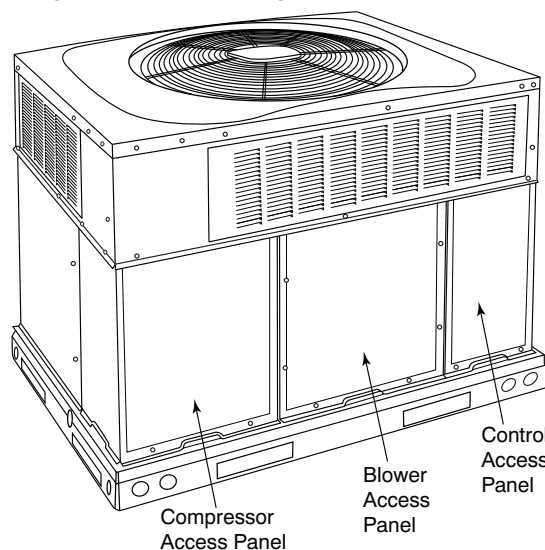

Fig. 34 – Unit Access Panels
An LED (light-emitting diode) indicator is provided on the integrated gas unit controller (IGC) to monitor operation. The IGC is located by removing the control access panel (see Fig. 34). During normal operation, the LED is continuously on (See Table 14 for error codes).
1. Remove control access panel (See Fig. 34).
Remove blower access panel (see Fig. 34). Limit switch(es) are located on the fan partition.
3. Remove control access panel (See Fig. 34).